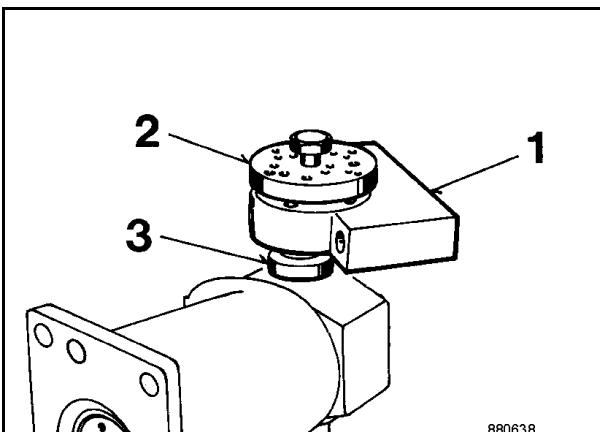

Fig. 3
3. Pull both bearing blocks 1 (Fig. 3) off with a puller (2).
4. Pull sealing rings (3) and supporting discs off bearing block or shaft journal.